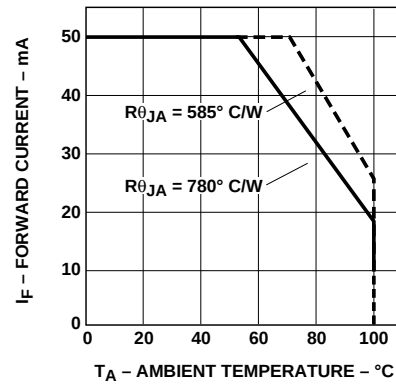

Figure 4. Maximum Forward Current vs. Ambient Temperature. Derating Based on $T_{JMAX} = 130^\circ \text{C}$.
- Derate linearly as shown in Figure 4.